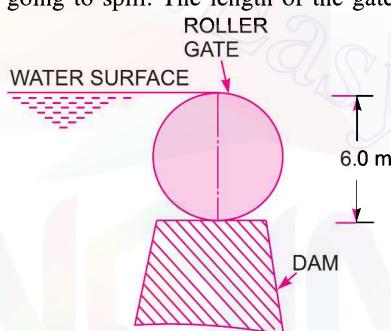

Fig. 3.59
20. A roller gate is shown in Fig. 3.59. It is cylindrical form of 6.0 m diameter. It is placed on the dam. Find the magnitude and direction of the resultant force due to water acting on the gate when the water is just going to spill. The length of the gate is given 10 m. [Ans. 2.245 MN,  $\theta = 38^\circ 8'$ ]